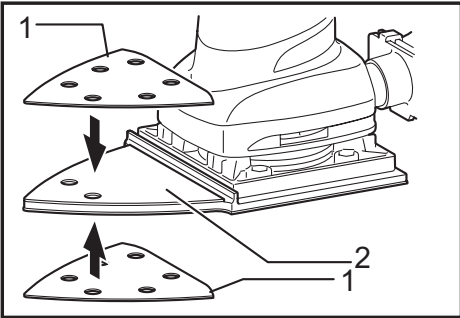

Fig.3
► Fig.3: 1. Velcro sandpaper 2. Base